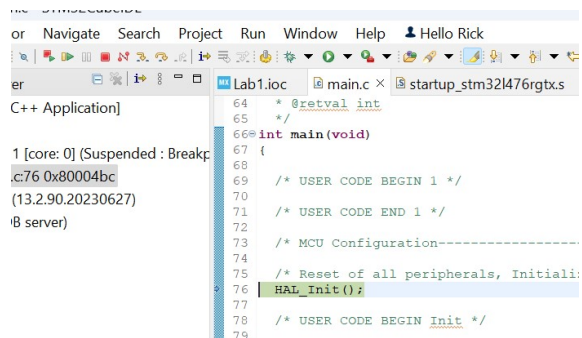

Figure 5: Resume Debug
5. To resume the program, click the play button on the left side of the task bar, shown in figure 5.
10. To resume the program, click the play button on the left side of the task bar, shown in figure 5.